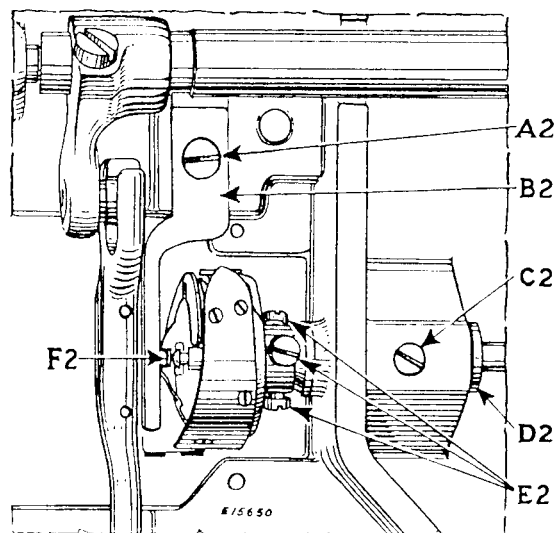
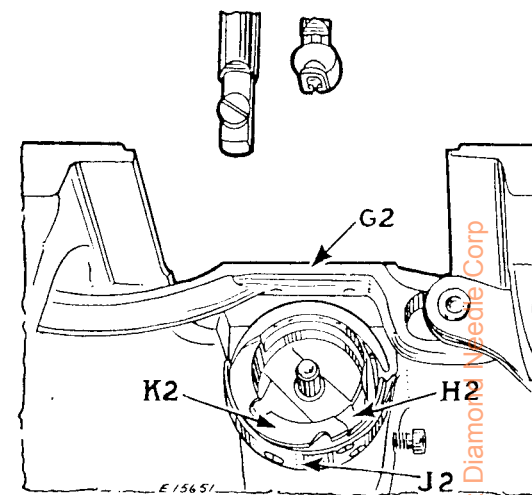
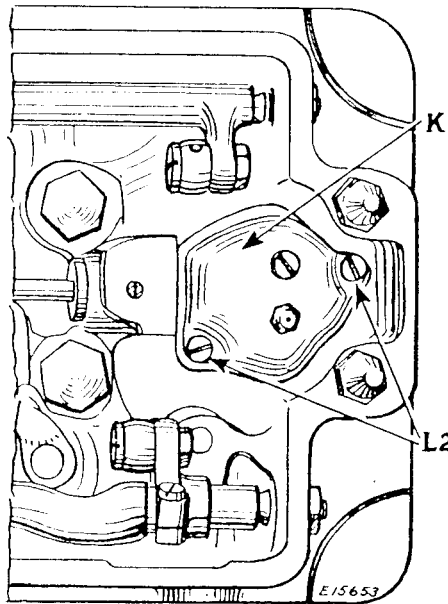

Fig. 26. View of Underside of Machine Showing Bobbin Case Holder Position Bracket and Adjustments on Machine
Fig. 27. Showing Correct Position of Thread Guard and Bobbin Case Holder for Removal of Sewing Hook
Fig. 28. Removing Lower Gear Case Cover for Hook Shaft Removal
In case the hook is not correctly timed, loosen the three screws (E2, Fig. 26) in the hub of the hook. These three screws can be reached from the top of the machine bed through the opening left by the re-
moval of the throat plate, although, for purposes of illustration, the screws are shown only in the view of the underside of the machine in Fig. 26. Rotating the balance wheel of the machine will bring these screws, one at a time, directly under the throat plate opening where they can be easily reached with a screwdriver from the top of the machine bed.
The hook should be set as close as possible to the needle without touching. If the hook is too close to the needle or too far away from it, loosen the three screws (E2) and the bushing screw (C2, Fig. 26) and drive the bushing (D2, Fig. 26) in or out, as may be required, until the hook just clears the needle, being very careful not to damage the bushing, then securely tighten the bushing screw (C2) and the three screws (E2).
Remove the needle, slide plate and bobbin case. Take out the screw (A2, Fig. 26) and remove the bobbin case holder position bracket (B2, Fig.
26). Loosen the three set screws (E2, Fig. 26) in the hub of the hook, then turn the balance wheel over toward you until the feed bar (G2, Fig. 27) is raised to its highest position. Turn the sewing hook until the thread guard (J2, Fig. 27) is at the bottom, as shown in Fig. 27, and turn the bobbin case holder (K2, Fig. 27) until it is in the position shown in Fig. 27. The sewing hook can then be removed from the hook shaft.
When placing a new sewing hook on the shaft, have the thread guard (J2) of the hook at the bottom and the bobbin case holder (K2) turned to the position shown in Fig. 27, so that the hook will clear the feed bar (G2).
When the hook is in position on the shaft, turn the bobbin case holder (K2, Fig. 27) until the notch (H2, Fig. 27) is at the top, then replace the bobbin case holder position bracket (B2, Fig. 26) being careful to see that the position stud (F2, Fig. 26) enters the notch at the top of the bobbin case holder, as shown in Fig. 26, then securely
fasten the position bracket by means of the screw (A2, Fig. 28). Replace the needle and time the sewing hook as instructed on pages 23 and 24. When tightening the three screws (E2, Fig. 26) in the hub of the hook, draw the hook shaft toward the needle bar end of the machine and press the hook toward the balance wheel to take up the end play in the shaft. Then replace the bobbin case and slide plate.
Remove the sewing hook as instructed on page 26. Take out the two screws (L2, Fig. 28) and remove the cover of the gear case (K), then wipe the grease from the gears.
Replace the gear case cover and fasten it in place with the two screws (L2, Fig. 28).